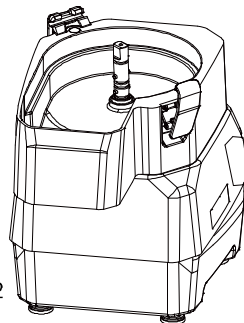

Fig. 2
**4.4.3.2** Make sure the middle base is located onto bottom base properly and securely, as shown in Figure 2.